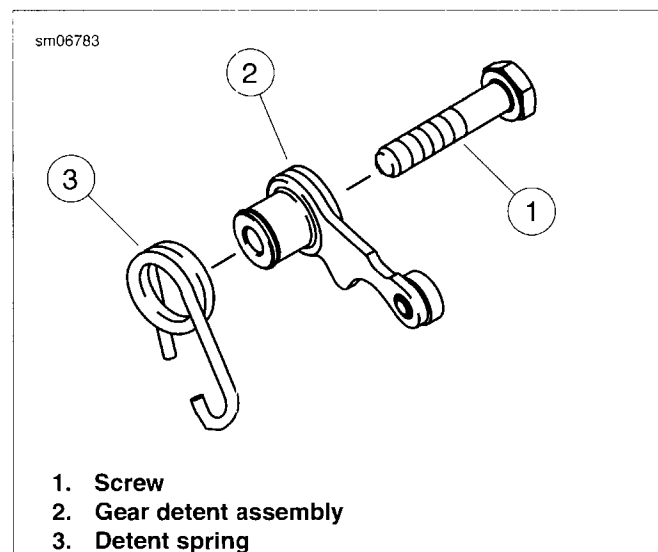

Figure 5-94. Gear Detent Assembly
1. See Figure 5-94. Assemble detent spring (3) onto gear detent assembly (2). Install detent assembly with spring into place in transmission cavity of right crankcase. Secure with screw (1). Tighten to 90-110 **in-lbs** (10.2-12.4 Nm).